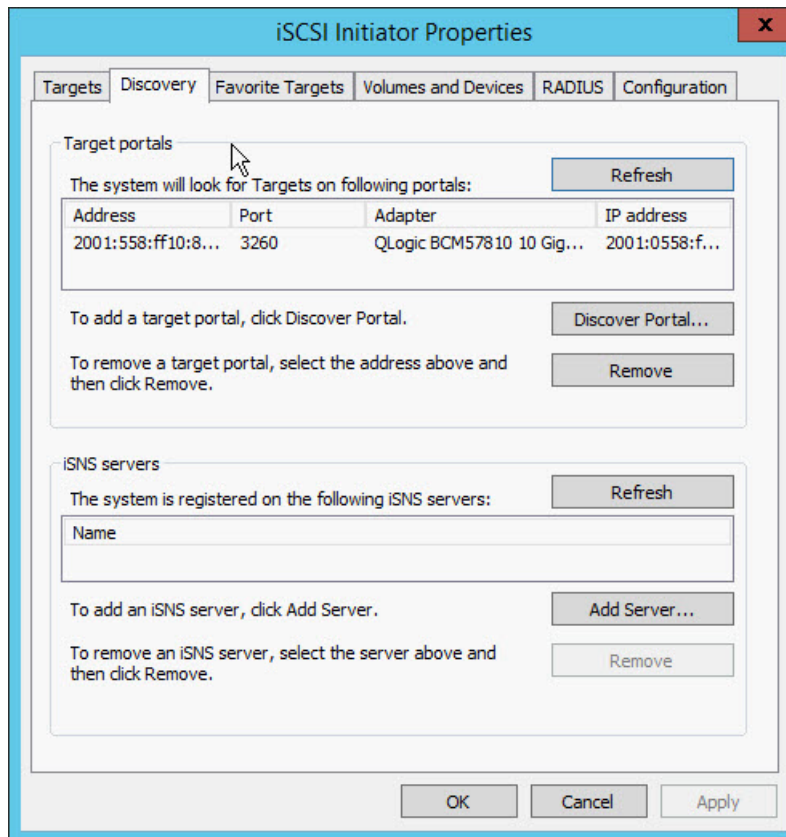

Figure 10-12. iSCSI Initiator Properties: Discovery Page
7. On the iSCSI Initiator Properties, click the **Discovery** tab, and then on the Discovery page, click **OK** to add the target portal. Figure 10-12 shows an example.